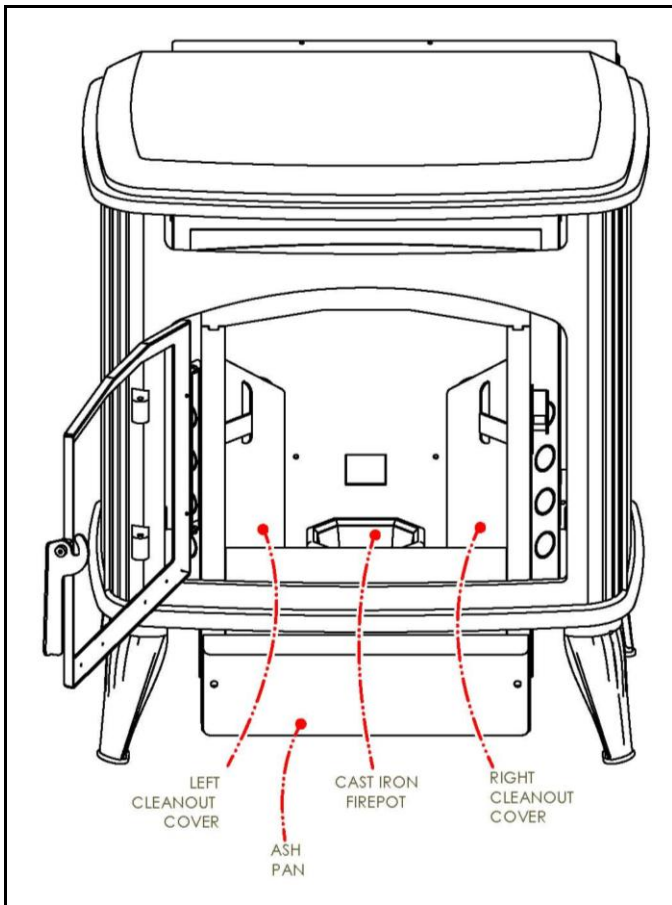

FIGURE 12
- a. Open door and remove clean out cover screws. To remove, simply unscrew and lift out from each side (see FIGURE 12). Clean one side at a time. With covers removed, leave the door open and push the "Clean" button. Let heater run 30 seconds, push to "Off," and replace cover. Remove the remaining clean out cover and repeat procedure for other side.
around and below the pot should be checked every five or six days depending on how many hours a day the heater is used and the quality of the pellets being burned. Remove the fire pot holder for thorough cleaning (see FIGURE 12).
Solution: When the pellets are overfeeding, it usually means that the air flow has been reduced. Check the fire pot air intake holes to be sure they are clear. Check to see if fire pot was properly seated in the pot tray. If low-grade grade pellets are used and clinkers (fused ash and dirt) form in the bottom of the fire pot and chock the air intake, consider changing the brand of pellets to one that burns cleaner. Ensure the fire is out before removing and cleaning the fire pot. **Never vacuum out the heater when the heater is in operation. The hot ashes can lodge in your vacuum cleaner and cause a fire** Clean the heat exchanger manifold (see FIGURE 12) regularly to ensure a good air to fuel ration, thus allowing the heater to "breathe" properly. Check the tee and vent pipe to ensure they are not clogged and full of ash.